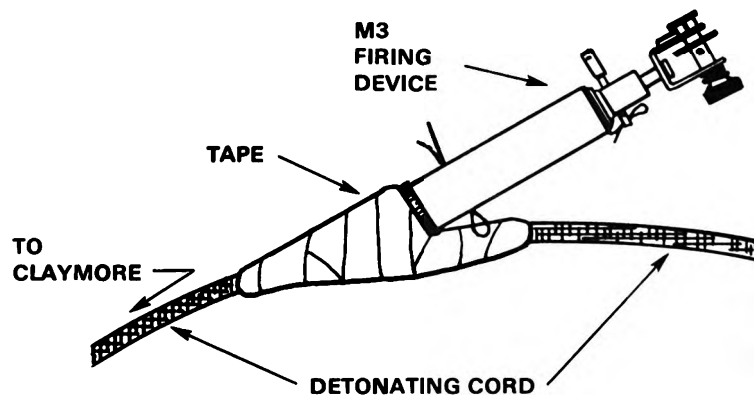

Figure 3. Method of taping M3 firing device to detonating cord.
- (3) Take the detonating cord and tape one end of the cord to the firing device end containing the nonelectric blasting cap as shown in figure 3.